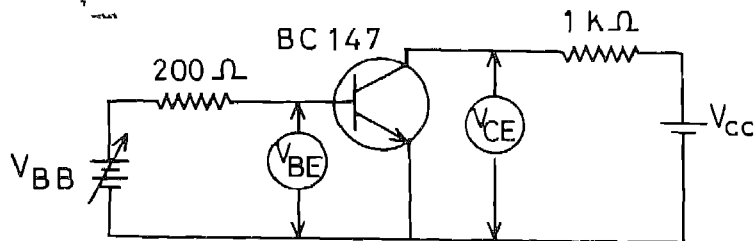

Fig. 6.15
**Procedure** 1. Connect the circuit as shown in fig. 6.15. Note that the emitter is common.